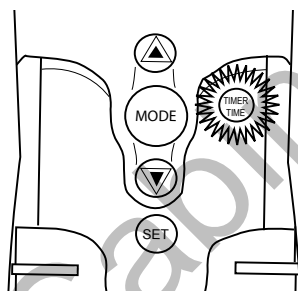
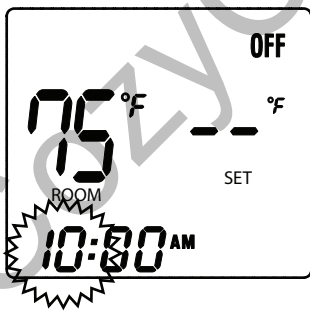

Fig. 7 Timer/Time Button
Fig. 8 Setting Hours
1. Press and hold the TIMER/TIME button on the transmitter for more than 2-seconds (Fig. 7). The hour digit(s) will begin blinking (Fig. 8)..